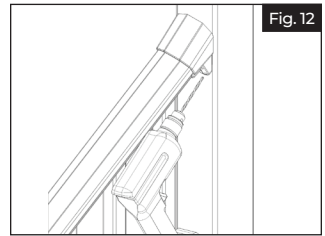
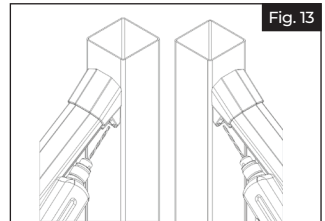

Fig. 12
Fig. 13
- b. Looking down from above, check to ensure screws penetrate the wood post (or plastic spacer of post install kit) (Fig 12).
- a. Center your bracket on the post. Using the holes in the bracket as a guide, pre-drill one of the lower holes in the bracket as a guide, pre-drill one of the lower holes with a  $\frac{5}{32}$ " drill bit (Fig 12). Drive one of the #10 x 3" screws through this hole. Pre-drill the other lower hole and drive another 3" screw into it. Now pre-drill the upper 2 holes in the bracket (Fig 13). Drive two more 2" screws into those holes. Be careful not to overtighten.